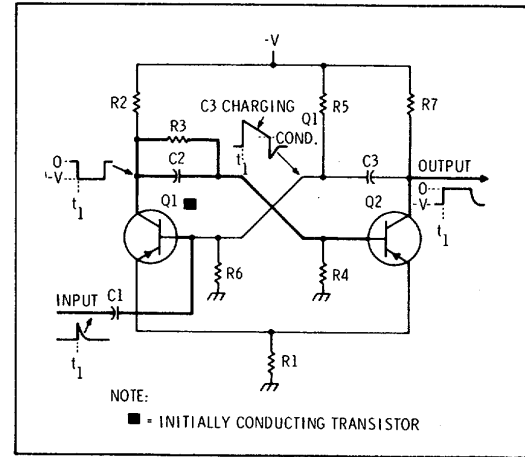

Figure 8-7. Basic One-Shot Multivibrator Circuits.
**8-28. One-Shot Multivibrator (Figure 8-7).** The one-shot multivibrator is a circuit which generates a pulse of some specified duration following the application of a suitable triggering pulse. The circuit is similar to the flip-flop except one dc coupling path has been removed so the circuit is stable only in the state in which Q1 conducts.
**8-29.** In the typical one-shot multivibrator shown in Figure 8-7, the following conditions exist during the initial stable period: the R5-R6 divider provides a smaller negative voltage to the base of Q2 to hold Q2 off.